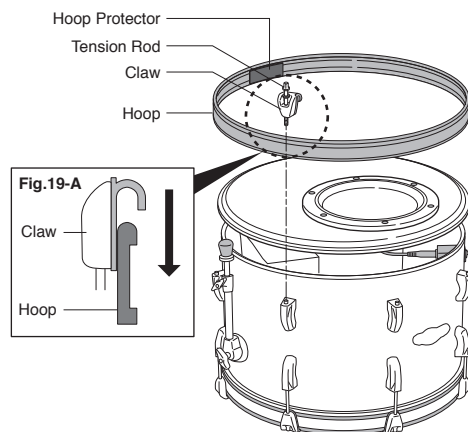

Fig.19
4. Place the Batter Side Head onto the Bass Drum shell with the Tru-Trac Bass Drumhead facing the top of the Bass Drum as shown (Fig. 19). Place the Bass Drum Hoop over the head with the flat side of the hoop facing down (Fig. 19-A).
5. Hook a Tension Rod and Claw on the Hoop above each lug and tighten the Tension Rods using the provided Drum Key (Fig. 19-A).
6. Attach the Hoop Protector on the batter side hoop where you attach your pedal (Fig. 19).